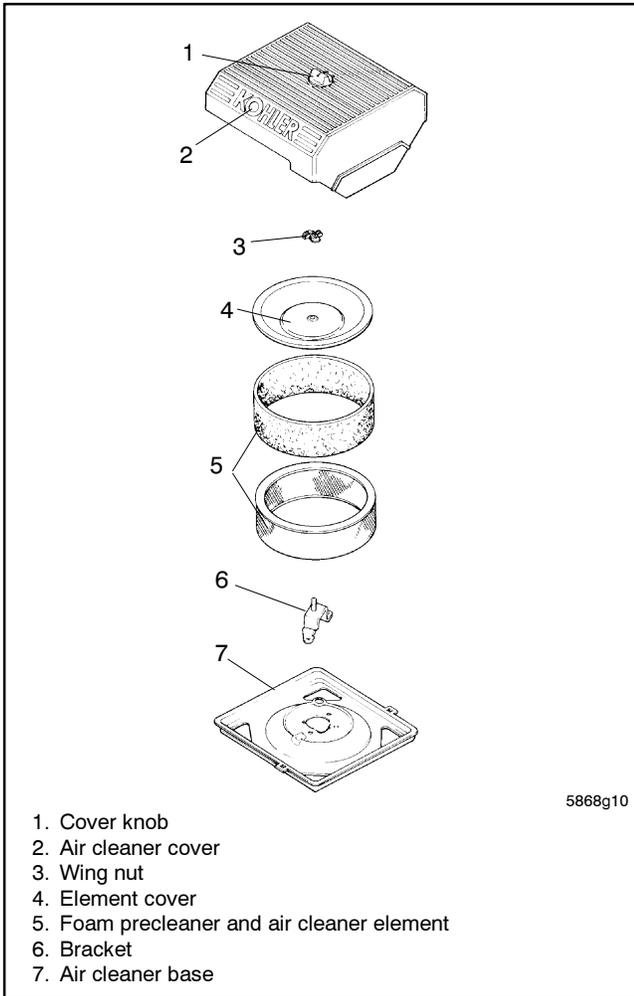

Figure 4 Air Cleaner Components
2.3 Remove the engine air cleaner assembly. See Figure 4.
4. Reinstall the air cleaner element and covers. See Figure 4.